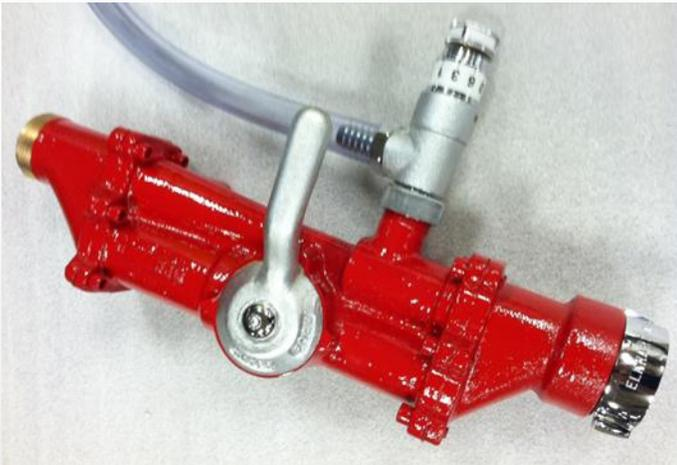

Figure 4 (Foam)
- If using a 240 by-pass educator make sure the by-pass valve handle is in the FOAM position (See Figure 4).